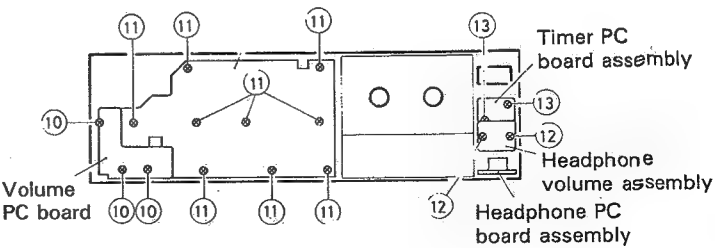

Fig. 2-5
2. Remove the two screws (12) retaining the headphone volume PC board (see Figure 2-5).
3. Remove the two screws (13) retaining the timer switch PC board (see Figure 2-5).